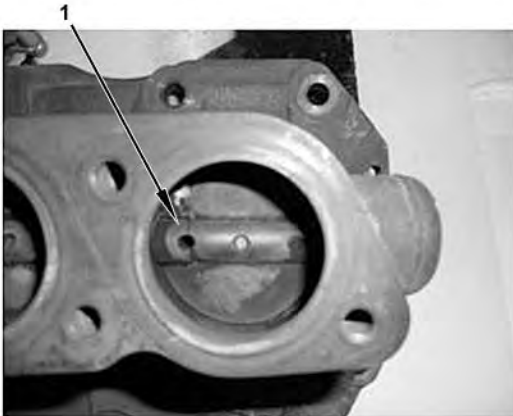

Figure 17 EGR Valve Missing Screw and Cracked Shaft
22. Inspect EGR valve for a cracked or broken shaft and damaged or missing parts. Make sure all six screws are present and shaft is not cracked or broken (Figure 17). If EGR valve flap screw is missing, or shaft is cracked or broken, replace EGR valve. If EGR valve is replaced, check high-temp EGR cooler for damage and replace, if necessary. Charge EGR cooler repair to Regular 01 Warranty, not to AFC.